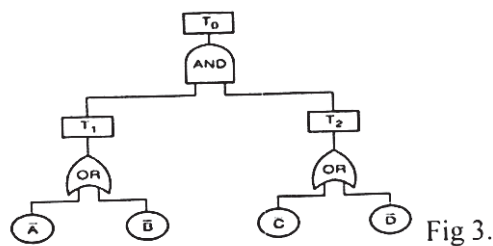

Fig 3.
- c)** The logic gate diagram for FTA has been shown in fig 3. The basic failure modes of A, B, C, and D have failure rates 0.002, 0.004, 0.005 and 0.008 per hour respectively. Find the failure rate of  $T_0$ . Assume a mission time of 100 hrs. [8]